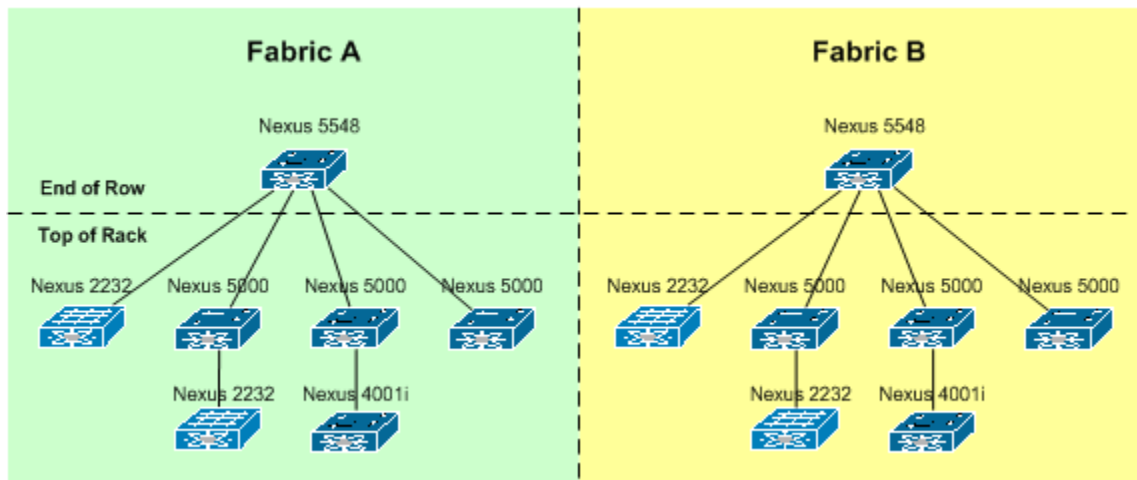

Figure 26 Physical topology example
- ◆ "Although it is not shown in Figure 26, the FCoE ISLs must be on physically separate links rather than trunked on the Ethernet uplinks used to carry non-FCoE traffic. This is not a requirement from an FCoE protocol perspective, but it is required when using the current version of NX-OS. This requirement may eventually be removed." on page 64
A logical representation of the physical topology is shown in Figure 26.
Although it is not shown in Figure 26, the FCoE ISLs must be on physically separate links rather than trunked on the Ethernet uplinks used to carry non-FCoE traffic. This is not a requirement from an FCoE protocol perspective, but it is required when using the current version of NX-OS. This requirement may eventually be removed.